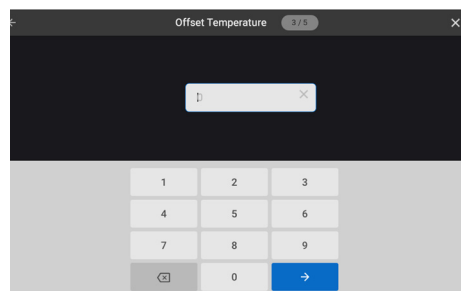

Figure 30: New Recipe Offset Temperature
- Input the recipe offset temperature and touch the blue arrow button to continue (Figure 30).